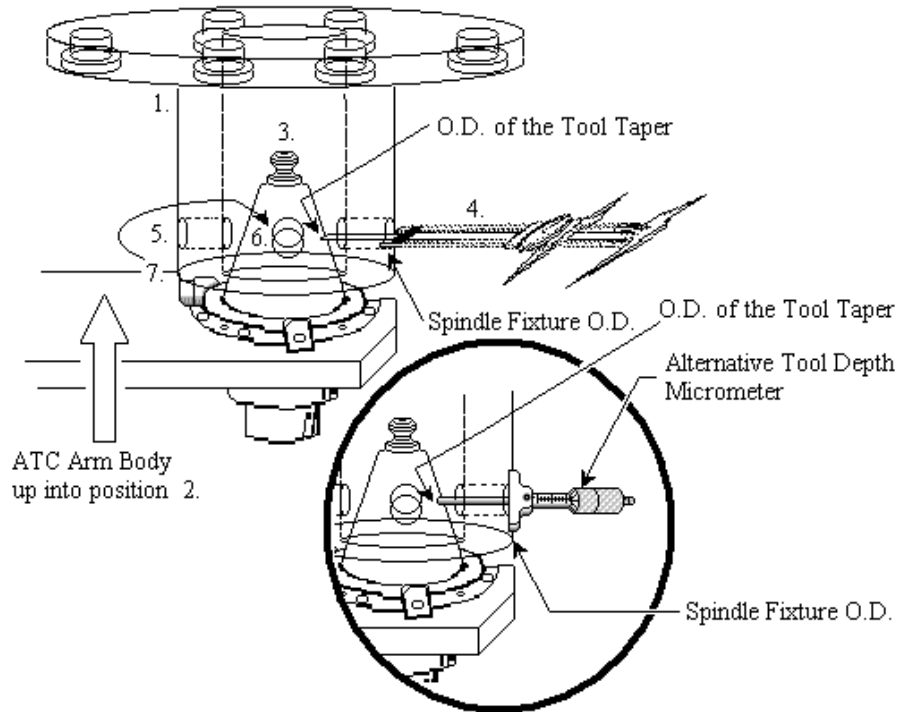

Figure 7-16: Manual Rotation of Tool Arm
3. Remove the oil inlet plug and fill the ATC oil reservoir with lubricant (MOBIL DTE OIL HEAVY MEDIUM) to approximately 1-1/2 gallons or 5 liters. Observe the sight glass to verify that the oil reservoir does not over fill (see Figure 7-16, positions 1 and 2). The alternative way to fill the oil reservoir is by utilizing the plugged air vent on top and to the rear of the main ATC casting. This does not require the removal of the main cover.
9. Install and tighten the gripper with the proper tool orientation (or position) key. See Figure 7-16:, positions 1, 6, and 7.
11. While rotating the ATC arm, pull the motor brake switch up. This is the electromagnetic brake that will be holding the motor back from turning smoothly. The switch is located on top and to the front of the ATC motor (the switch must be held up). See Figure 7-16:, position 3.
14. To install the tool holder manually, it will be necessary to push the plunger mechanism down, to release the pressure of the tool holding rod. See Figure 7-16:, positions 2 and 3.
20. Check the distance between the O.D. of the tool holder to the O.D. of the spindle fixture, using the through holes, and split the difference between the side to side readings. See Figure 7-16, positions 4, 5, 6 and 7.
28. Install four #5 tapered dowel-pins into the ATC arm mount at the column. See Figure 7-16:, position 4.
30. While rotating the ATC arm, pull the motor brake switch up. This is the electromagnetic brake that will be holding the motor back from turning smoothly. The switch is located on top and to the front of the ATC motor (the switch must be held up). See Figure 7-16:, position 3. When the motor has reached the lowest position, press the plunger and remove the tool holder.